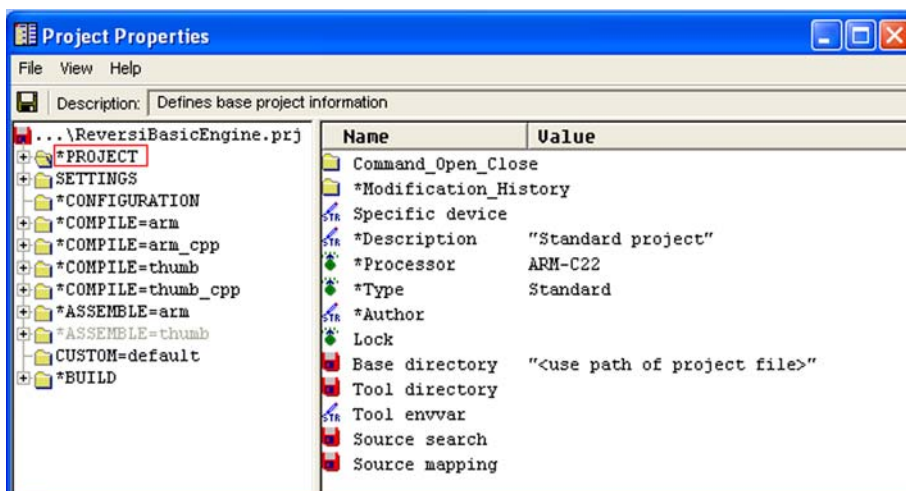

Figure 5-56. RealView Project Properties
9. Click **OK** in the Create Standard Project dialog box. The Project Properties window now appears (Figure 5-56).